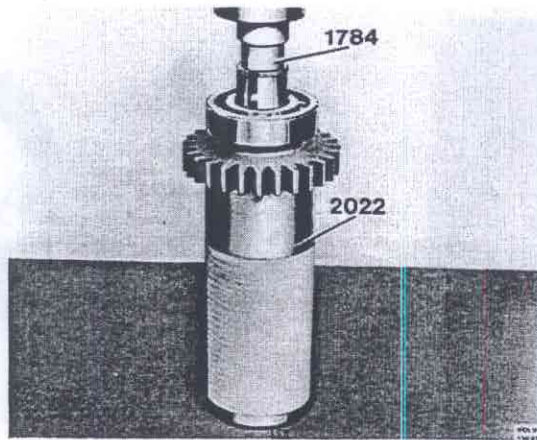

Fig. 48-11. Removing bearing
5. Place the shaft in 2022 and press off the bearing using 1784, see Fig. 48-11.